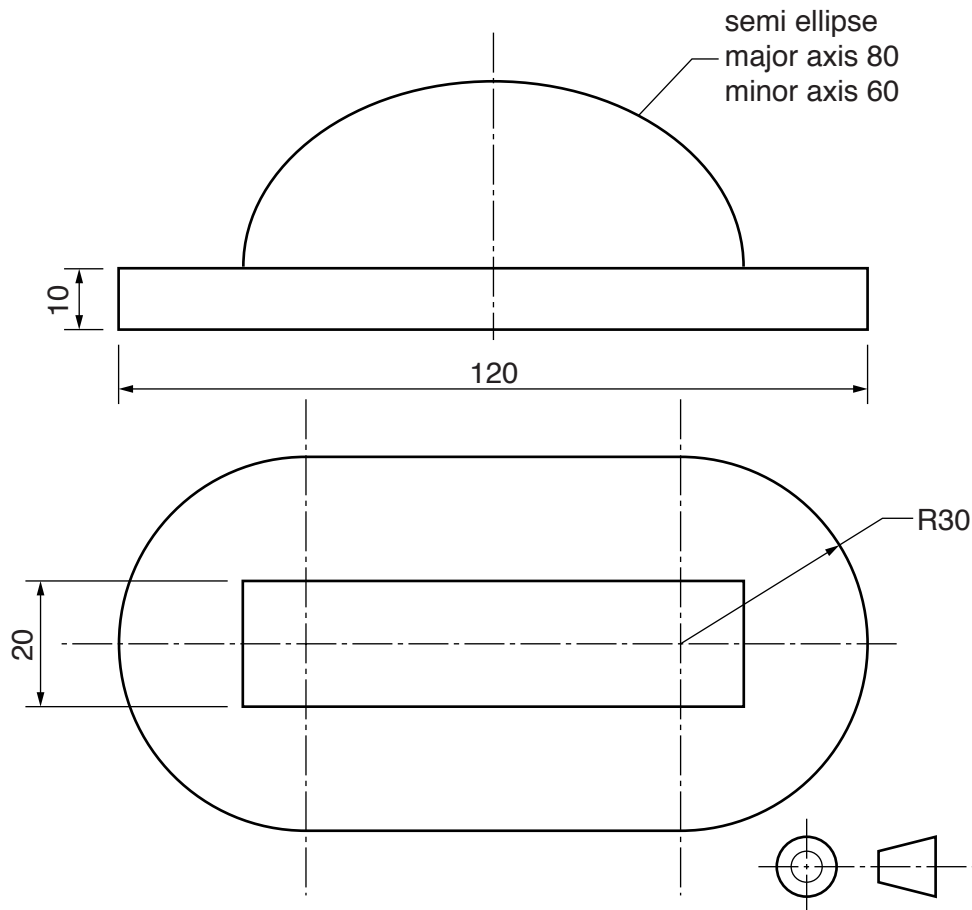

Fig. 4
- 8 Fig. 4 shows a child's toy. [8]